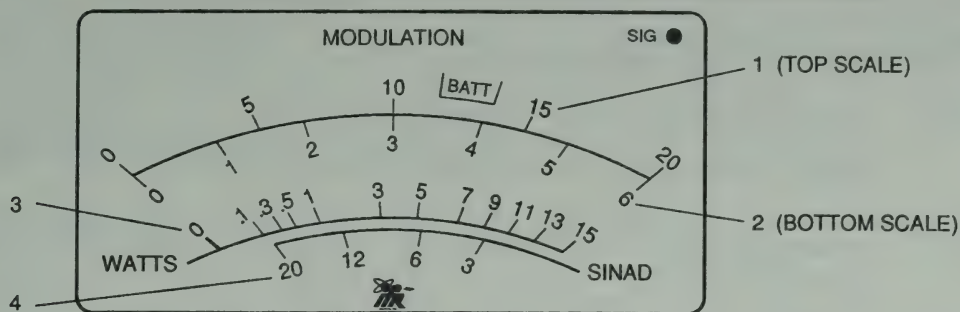

Figure 3-2 MODULATION Meter Scales
Provides a visual display of modulation levels, RF power levels (peak and average), relative signal strength, battery test voltage, distortion and SINAD when selected by MODULATION Meter Control (4). (See Figure 3-2.)
Selects input source for MODULATION Meter (1) as shown in Table 3-2 (Reference Figure 3-2).